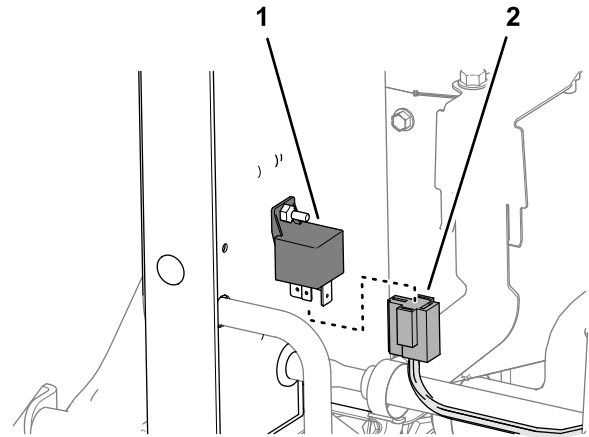

Figure 11
1. Remove the 4-blade connector of the machine wire harness from the glow-plug relay (Figure 11).